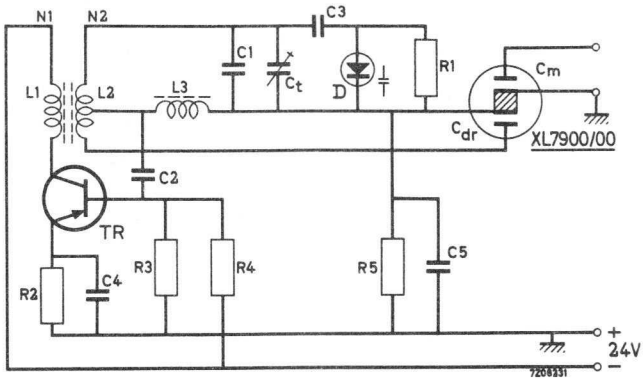

Fig. 2
1) For instance in an apparatus realised with the circuit shown in Fig.2, it turned out that all capacitors have a conversion efficiency between 10 and 40% at a voltage over L₁ of 1 V_{RMS}.